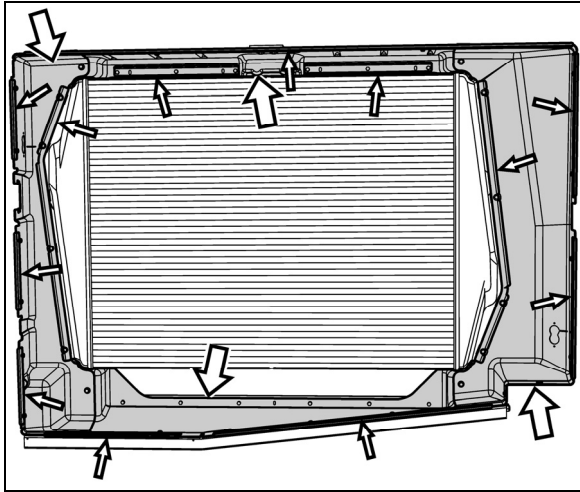

FIGURE 15: RADIATOR SEALING FRAME
9. Remove radiator sealing frame (Fig. 15).